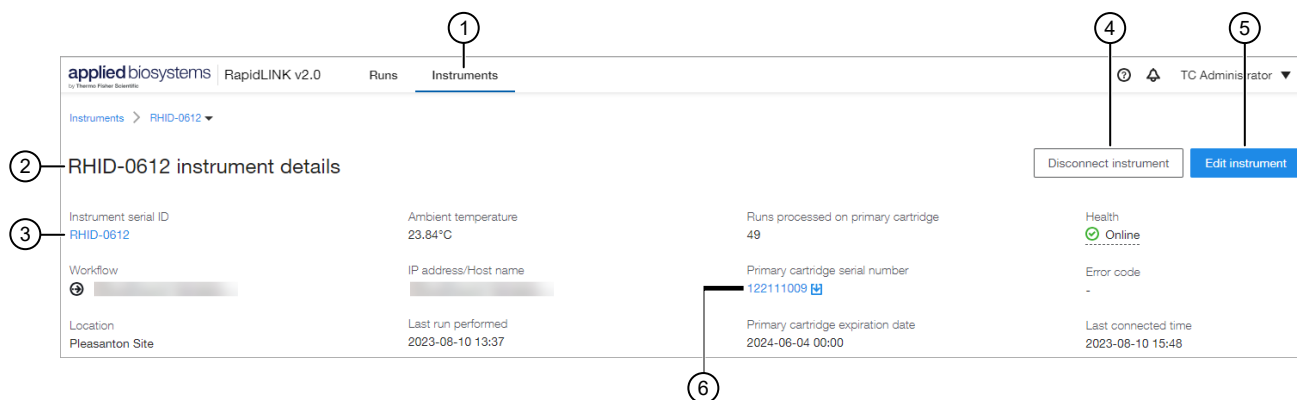
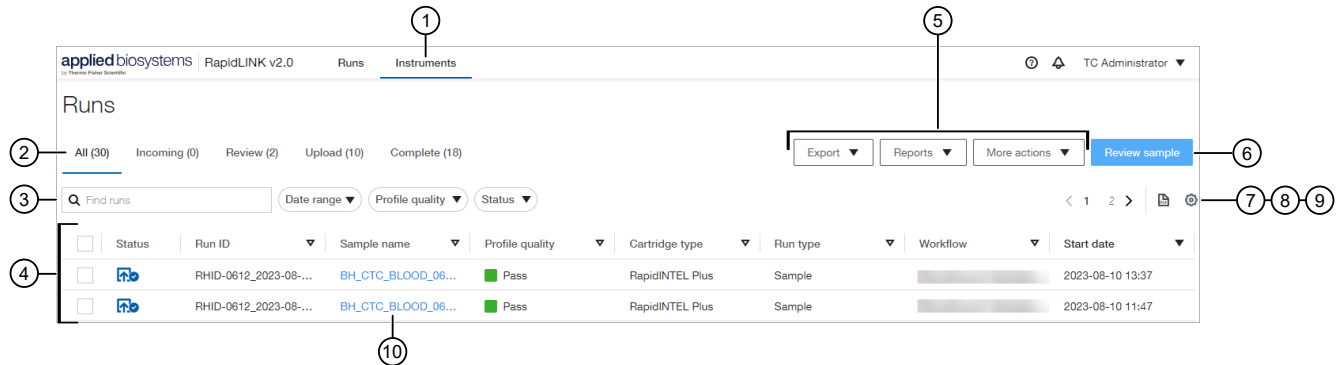
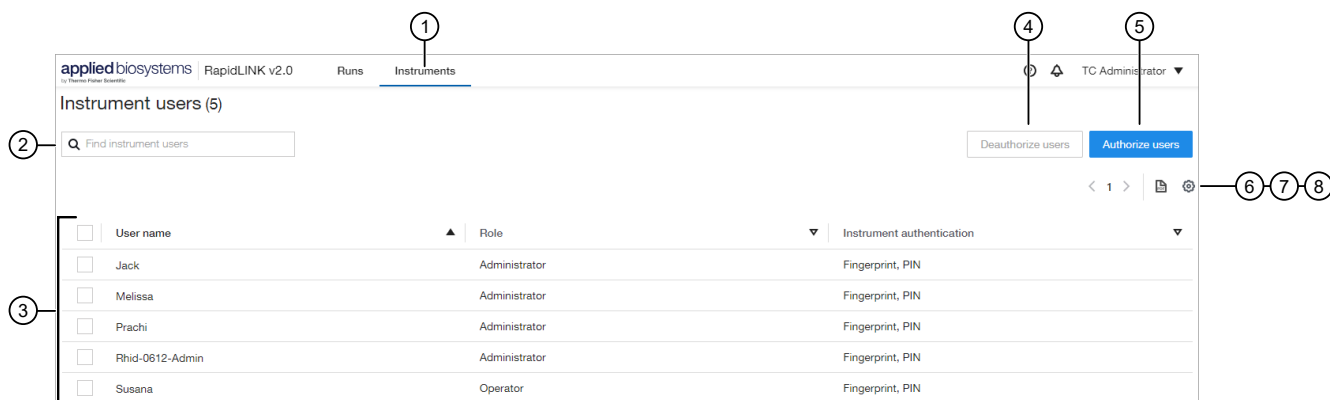

Figure 12 <ID> instrument details pane
Figure 13 Runs pane
Figure 14 Instrument users pane
4. Depending on your user role permissions, you can perform the functions shown in Figure 12, Figure 13, and Figure 14.